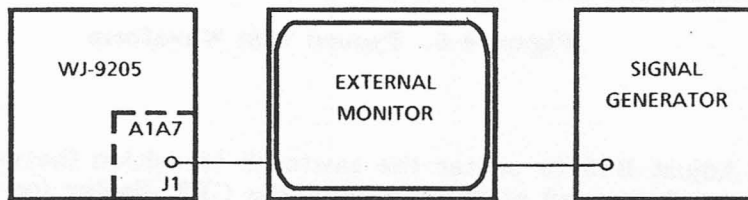

Figure 4-6. X-Y Alignment, Equipment Connections
10. Connect the test equipment as shown in **Figure 4-6**.